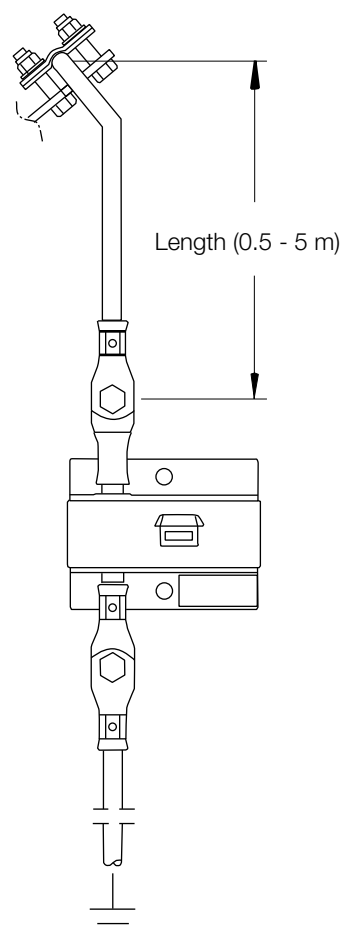

Fig 8.4
- The length of the conductor between the arrester and the surge counter is minimum 0,5 m but shall as a recommendation not exceed 5 m, see figure 8.4. Longer distances up to 10 m could be used but please note that longer connection leads means a disadvantage from protection point of view since inductance is added in series with the arrester. The conductor shall be insulated for $5 \times L$ kV (LIWL), where L is the conductor length in meter as shown in figure 8.4.